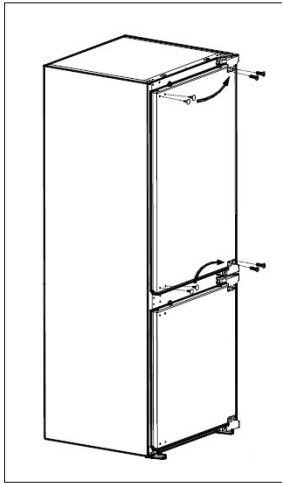

Fig. 17
1. Loosen all the screws in the refrigerator door and move all the blind plugs to the other side of the door (Fig. 17). Place the refrigerator door in a safe place.